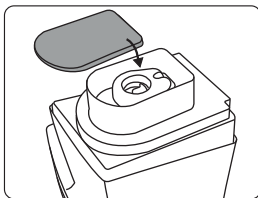
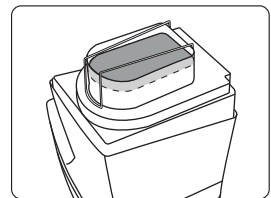

Fig. 1
Fig. 3
- B. Remove the main unit and turn it upside down so that the heating element faces upward (Fig. 1).
- C. Insert the filter into the heating element housing (Figures 1 and 2) and use the supplied metal clip to secure it (Fig. 3).